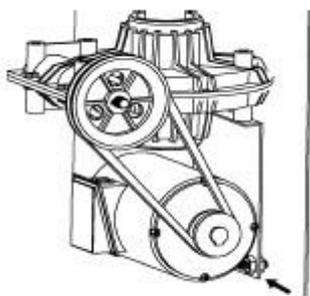

Fig 23
**Remove the left side cover by unscrewing the screws; adjust two screws located on the motor support, keep a suitable distance between motor support and motor base; tight the screws for the belt tension.(Fig 23)**